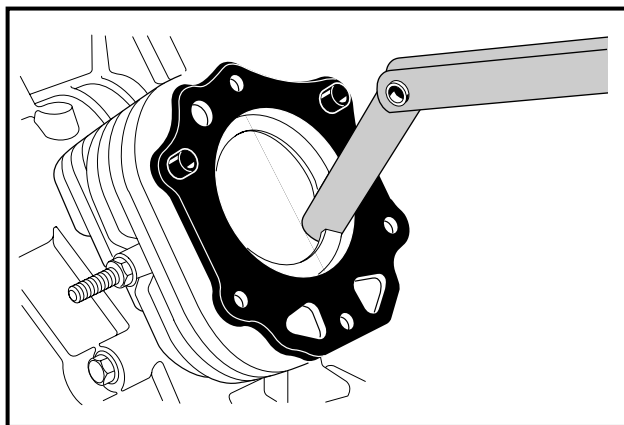

Figure 2-47 Measure Ring End-Gap
2. Use a feeler gauge to measure the ring end-gap (**Figure 2-47, Page 2-24**).